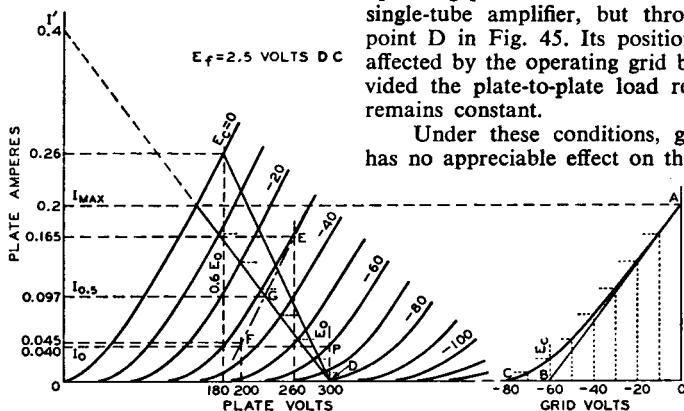

Fig. 45—Graphic calculations for class AB₁ amplifier Fig. 46—Instantaneous curve using a power triode.
In class AB₁ push-pull amplifier service using triodes, the operating conditions may be determined graphically by means of the plate family if E_o , the desired operating plate voltage, is given. In this service, the dynamic load line does not pass through the operating point P as in the case of the single-tube amplifier, but through the point D in Fig. 45. Its position is not affected by the operating grid bias provided the plate-to-plate load resistance remains constant.
In general, for any load line through point D, Fig. 45, the plate-to-plate load resistance in ohms of a push-pull amplifier is $R_{pp} = 4E_o/I'$, where I' is the plate-current value in amperes at which the load line as projected intersects the plate-current axis, and E_o is in volts. This formula is another form of the one given under push-pull class A amplifiers, $R_{pp} = 4(E_o - 0.6E_o)/I_{max}$, but is more general. Power output $= (I_{max}/\sqrt{2})^2 \times R_{pp}/4$, where I_{max} is the peak plate current at zero grid volts for the load chosen. This formula simplified is $(I_{max})^2 \times R_{pp}/8$. The maximum-signal average plate current is $2I_{max}/\pi$ or $0.636 I_{max}$; the maximum-signal average power input is $0.636 I_{max} \times E_o$.
Example: Fig. 45 illustrates the application of this method to a pair of power triodes operated at $E_o = 300$ volts. Each tube has a plate-dissipation rating of 15 watts. The method is to
the plate family and the load line. Fig. 46 is a curve of instantaneous values of plate current and dc grid-bias voltages taken from Fig. 45. Values of grid bias are read from each of the grid-bias curves of Fig. 45 along the load line and are transferred to Fig. 46 to produce the curved line from A to C. A tangent to this curve, starting at A, is drawn to intersect the grid-voltage abscissa. The point of intersection, B, is the operating grid bias for fixed-bias operation. In the example, the bias is -60 volts. Refer back to the plate family at the operating conditions of plate volts $= 300$ and grid bias $= -60$ volts; the zero-signal plate current per tube is seen to be 0.04 ampere.
As in the case of the push-pull class A amplifier, the second-harmonic distortion in a class AB₁ amplifier using triodes is very small and is largely canceled by virtue of the push-pull connection. Third-harmonic distortion, however, which may be larger than permissible, can be found by means of composite characteristic curves. A complete family of curves can be plotted, but for the present purpose only the one corresponding to a grid bias of one-half the peak grid-voltage swing is needed. In the example, the peak grid voltage per tube is 60 volts, and the half value is 30 volts. The composite curve, since it is nearly a straight line, can be constructed with only two points (see Fig. 45). These two points are obtained from deviations above and below the operating grid and plate voltages.
These steps provide points at 260 volts and 0.165 ampere (E), and at 200 volts and 0.045 ampere (F). A straight line through these points is the composite curve for a bias of -30 volts, shown as a long-short dash line in Fig. 45. At the intersection of the composite curve and the load line, G, the instantaneous composite plate current at the point of one-half the peak signal swing is determined. This current value, designated $I_{0.5}$ and the peak plate current, I_{\max} , are used in the following formula to find the peak value of the third-harmonic component of plate current.